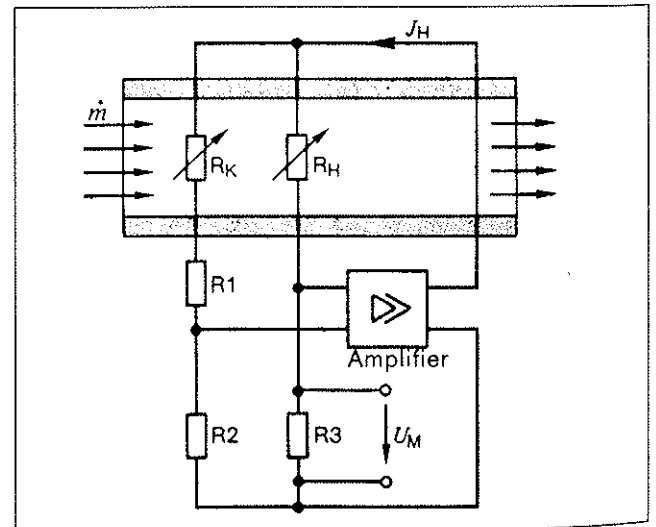

Fig. 3-3. Wheatstone bridge principle explains maintenance of hot-wire temperature.
**Control Circuits.** The LH control circuits use a Wheatstone bridge, as shown in Fig. 3-3. The hot wire is one leg of a bridge circuit whose output voltage is held to zero by regulating the heating current. The hot wire, known as  $R_H$ , changes resistance with temperature. Incoming air passes over the hot-wire,  $R_H$ , and also over another resistance wire,  $R_K$ . The same voltage is applied to both wires. In series with  $R_K$  are two fixed resistances,  $R_1$  and  $R_2$ ; in series with our hot wire,  $R_H$ , is fixed resistance  $R_3$ .